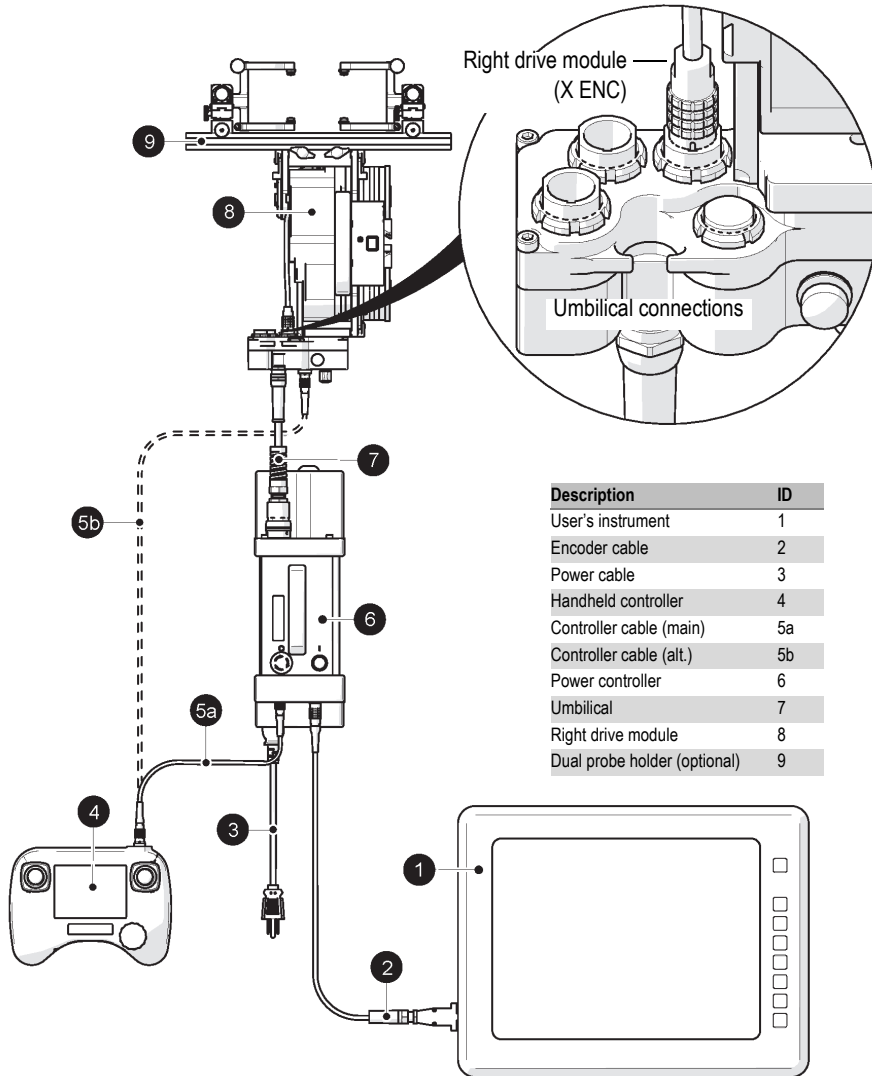

Figure 3-6 Right drive module configuration
2. Mount and connect the umbilical to the right drive module (see Figure 3-6 on page 164).
7. Attach a configured frame bar (see Figure 3-6 on page 164) to the SteerROVER scanner (see “Swivel Mount” on page 52).